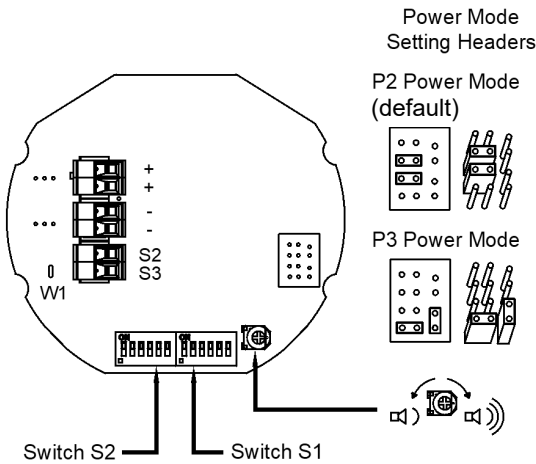
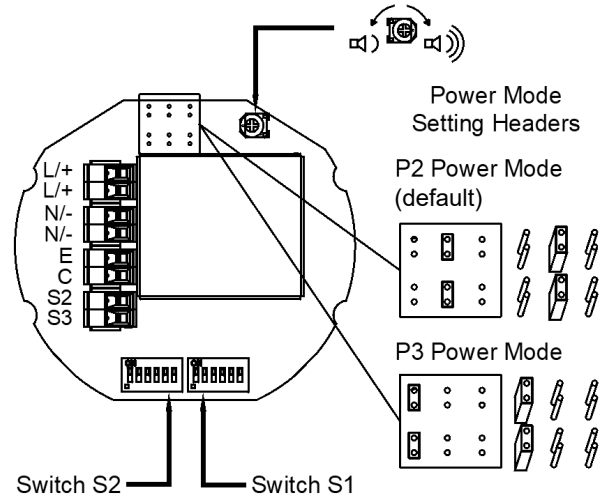

Figure 5: DC PCBA.
Figure 6: AC PCBA .
- Fit an M20/NPT suitably rated cable gland or conduit entry into the hole in the enclosure and connect the field wiring to the appropriate alarm horn terminals as shown in fig. 6 (AC) or fig 5. (DC). The power supply terminals are duplicated so that units may be connected in parallel. An end of line monitoring resistor may be fitted to DC units only (see section 12). If the second and third M20/NPT entries are not used, suitably rated stopping plugs must always be fitted.
The D1x Alarm Horn Sounders have 64 different tones that can be selected independently for the first and second stage alarms. The tones are selected by operation of the tone setting DIP switch 1 & DIP 2 (see figures 6 and 7) on the PCB, for stage 1 and stage 2 respectively.